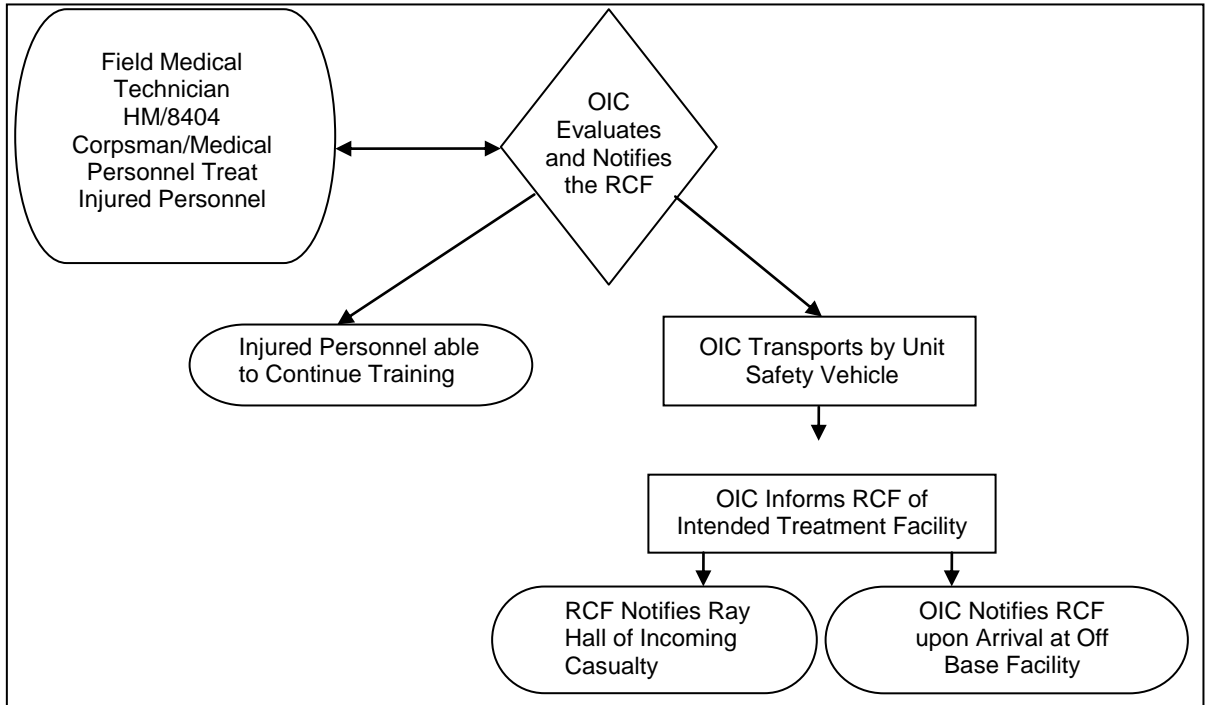

Figure 1-1 Routine MEDEVAC Decision Tree
1. Routine MEDEVAC. Figure 1-1 shows the OIC/RSO decision points during a Routine MEDEVAC.